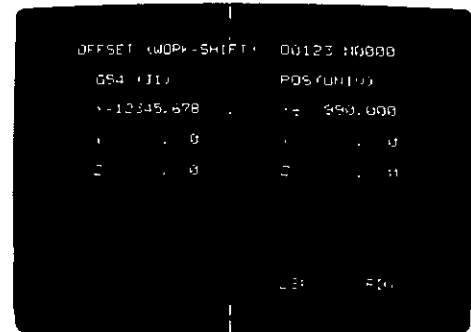

Fig. 4.23 (b) Example of Work Offset Display Screen
(1) Work offset display
- (b) Depress the  key until the screen shown in Fig. 4.23 (b) appears.
(2) Writing the work offset